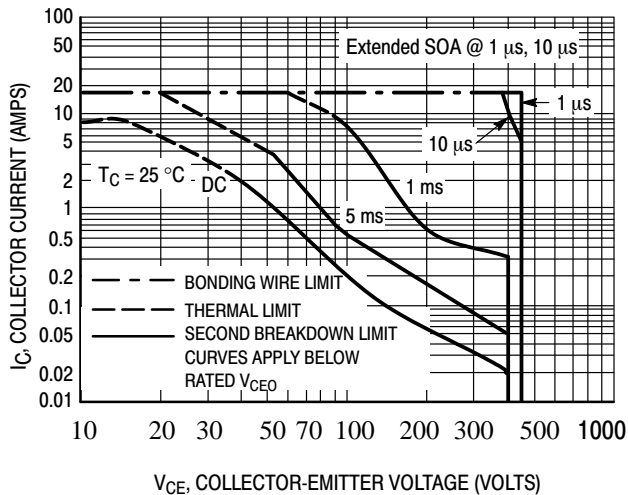
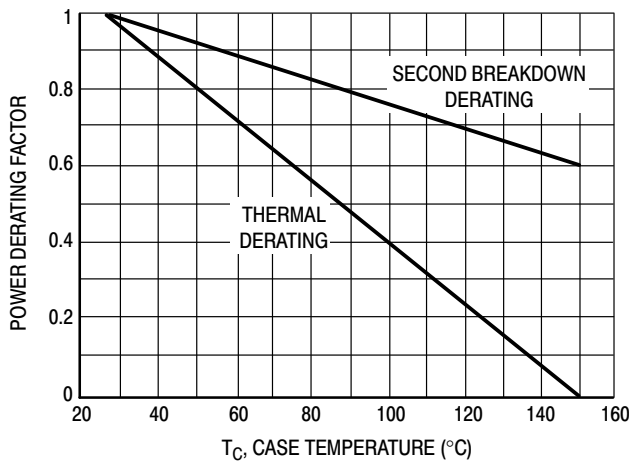

Figure 6. Maximum Forward Bias Safe Operating Area
Figure 8. Forward Bias Power Derating
The data of Figure 6 is based on $T_C = 25\text{ °C}$; $T_{J(pk)}$ is variable depending on power level. Second breakdown pulse limits are valid for duty cycles to 10% but must be derated when $T_C \geq 25\text{ °C}$. Second breakdown limitations do not derate the same as thermal limitations. Allowable current at the voltages shown on Figure 6 may be found at any case temperature by using the appropriate curve on Figure 8.
The sustaining or active region voltage requirements in switching applications occur during turn-on and turn-off. If the load contains a significant capacitive component, high current and voltage can exist simultaneously during turn-on and the pulsed forward bias SOA curves (Figure 6) are the proper design limits.
2. The turn-on time does not exceed 10 μ s (see standard pulsed forward SOA curves in Figure 6).